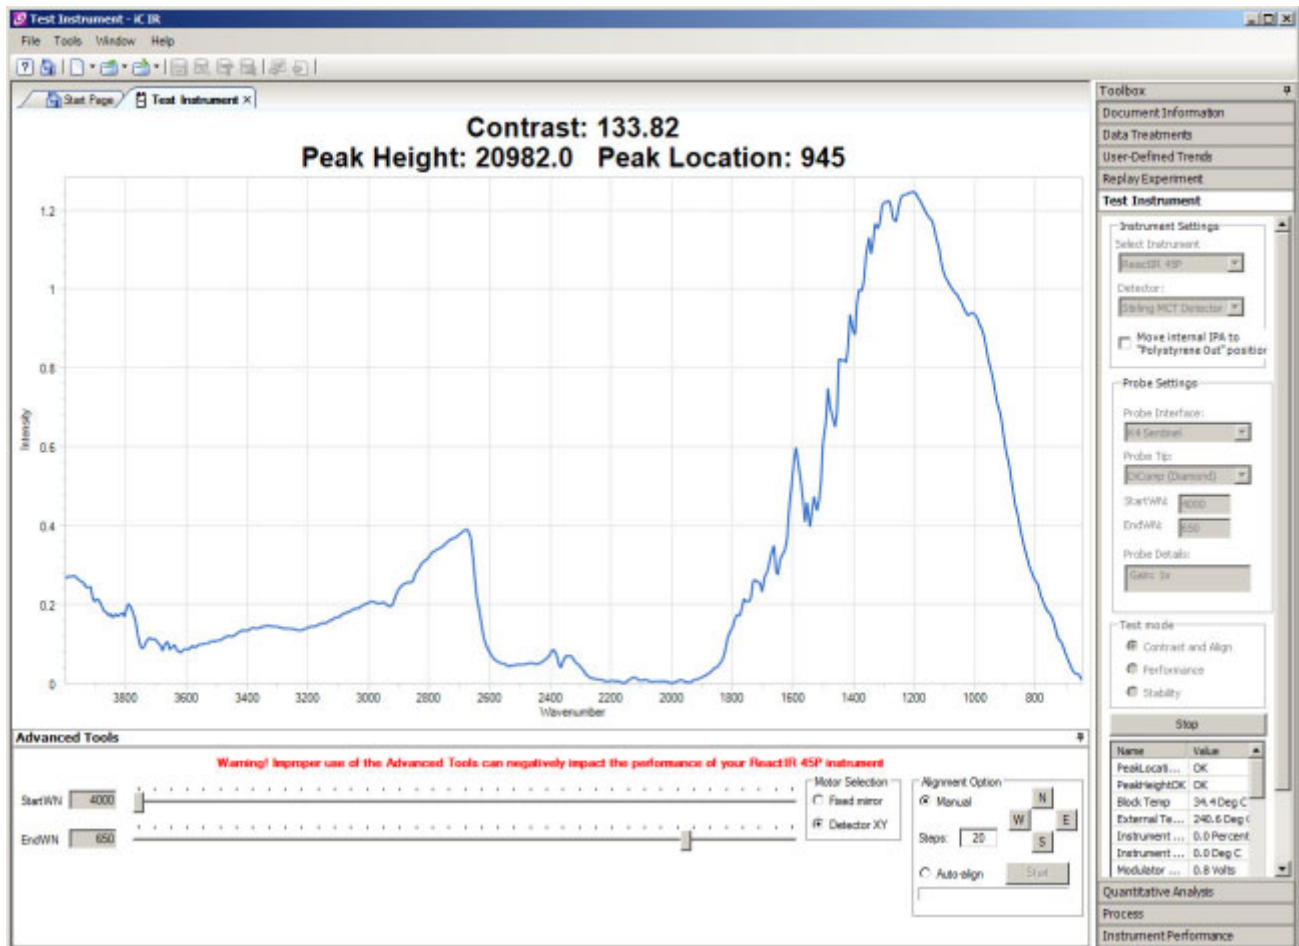

Figure 3-28 Contrast, peak height, and peak location in iC IR
4. Observe Peak Height and Contrast in the iC IR Test Instrument window (Figure 3-28). If the optimal values are not yet attained, contact METTLER TOLEDO.